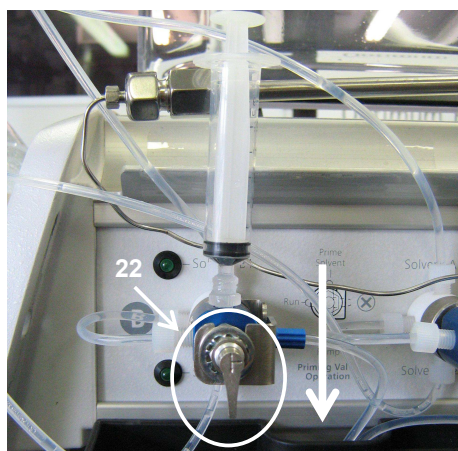

Figure 19: Flushing the pump line
3. Once the syringe is full, then turn the valve selection switch to the down position (22) to flush out the line going to the inlet valve of the pump (*Figure 19*). Loosening the tube end by the check valve allows the bubbles to flush out.